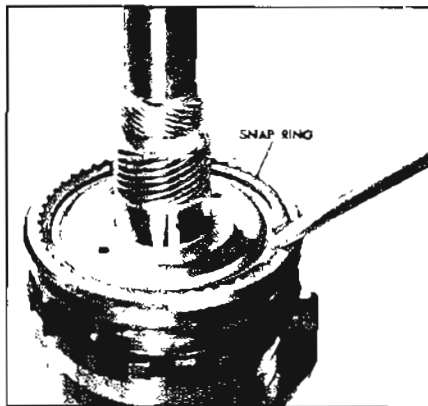

Figure 5-561
7. Turn assembly over and place mainshaft in hole in work bench. See Figure 5-561.